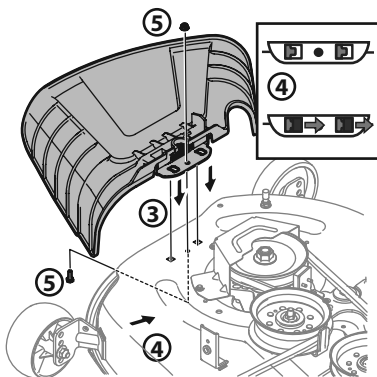

Figure 9
3. Place the chute deflector on the deck, be sure to insert the tabs on the chute deflector into the holes on the deck. See Figure 9.
4. Slide the chute deflector toward the rear of the tractor until the bolt hole in the chute deflector aligns with the hole in the deck. See Figure 9.
5. Secure the chute deflector in place with the flange lock nut and hex screw removed in step two. Tighten to 102-124 in-lbs (11.5-14 N-m). See Figure 9. Skip ahead to "Setting Front Gauge Wheels."